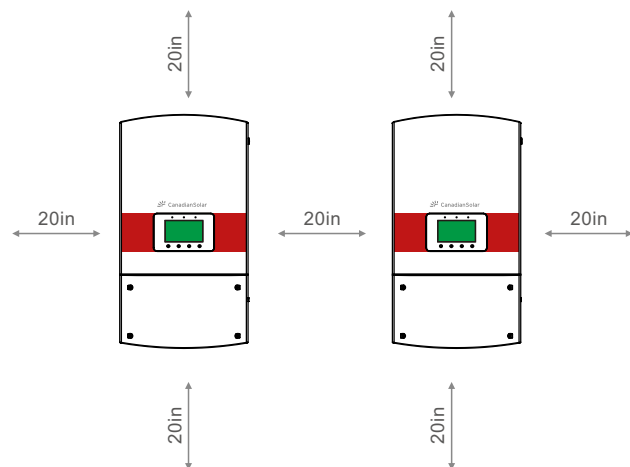

Figure 3.1 Distances required between inverters
- If multiple inverters are installed on site, a minimum clearance of 20 inches should be kept between each inverter and all other mounted equipment. The bottom of the inverter should be at least 20 inches above of the ground or floor (see Figure 3.1).